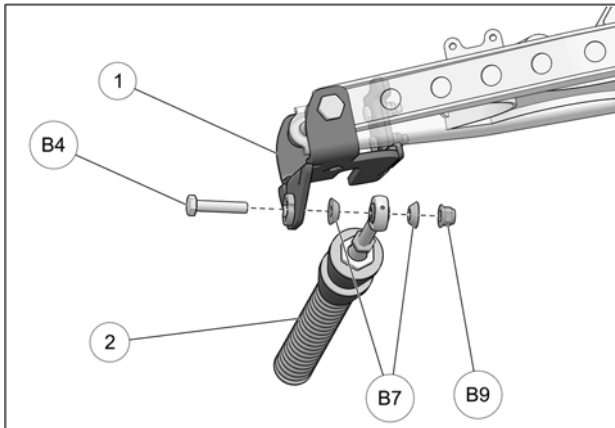

Fig. 16
17. Attach stabilizing rod (2) to anchor bracket (1), using bolt (B4), Taper sleeves (B7), and nut (B9). Torque to 70 N•m [52 lb•ft]. See Fig. 16